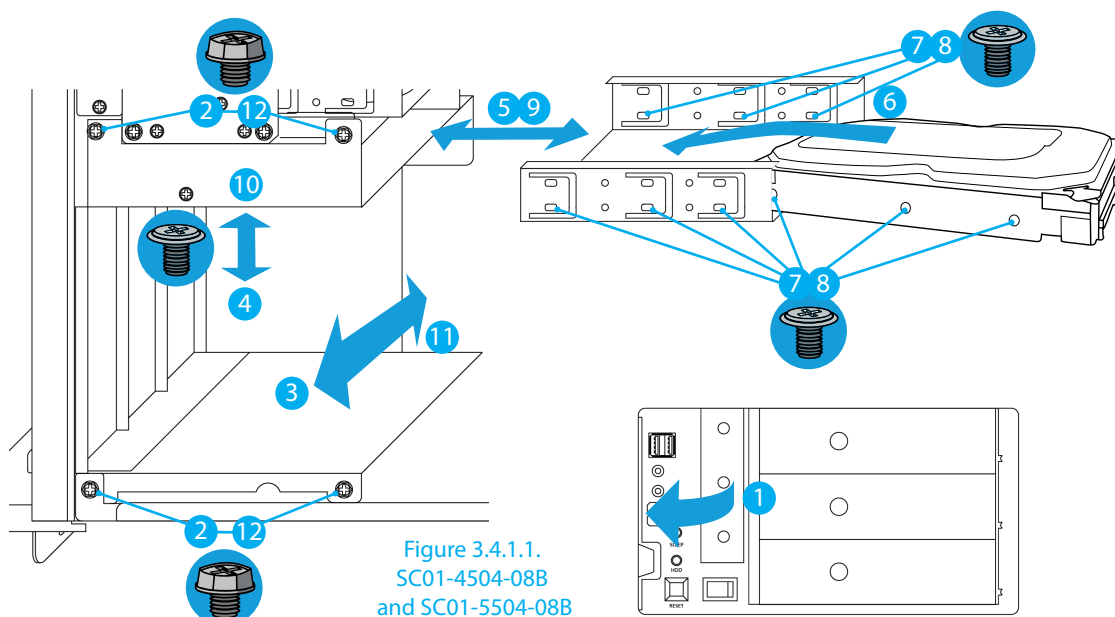

Figure 3.4.1.1.
#### 3.4.1. SC01-4504-08B and SC01-5504-08B models (figure 3.4.1.1)
9. Insert back, carefully, the tray into the 5.25" outer bay (the exact opposite of the point (5)) – Figure 3.4.1.2.
10. Screw back 1 Phillips bolt with flange, responsible for fixing 5.25" outer bay with the 3.5" tray – (the exact opposite of the point (4)).